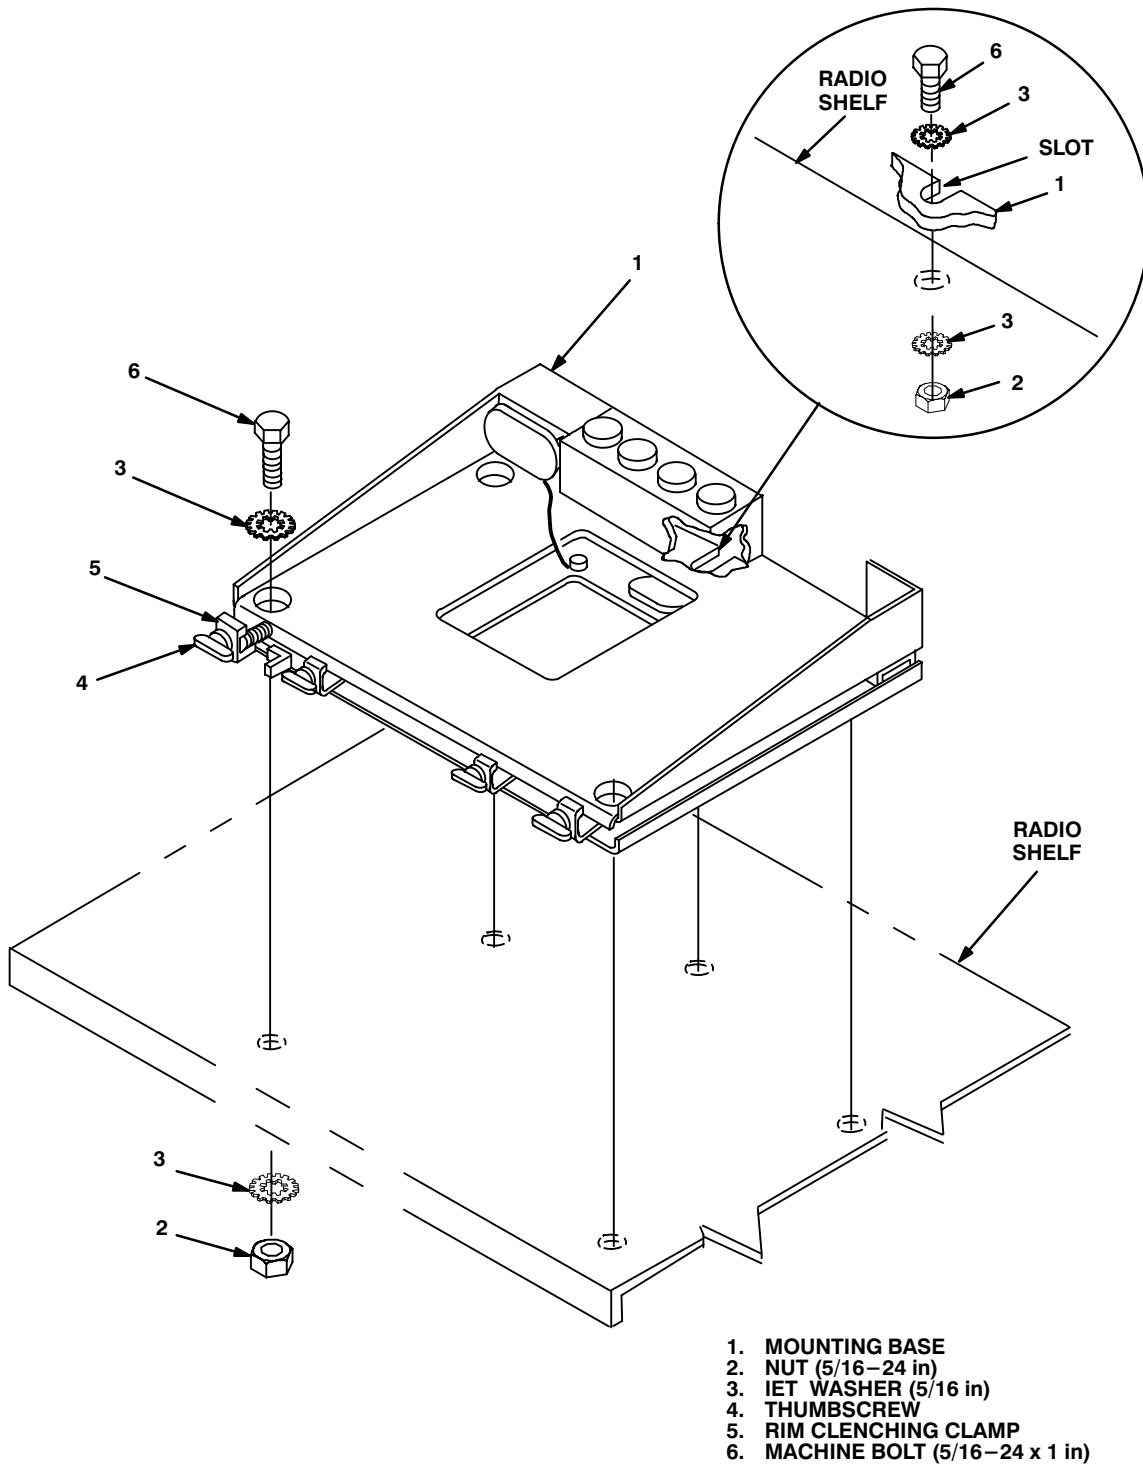

Figure 5-4. Mounting Base Installation
5.2 Installation of Mounting Base, Electrical Equipment MT-6352/VRC (mounting base). Remove and retain attaching bag of 5/16 in mounting hardware for installation. To insure good electrical grounding, any rust, corrosion or paint around mounting holes in radio shelf should be removed before installing the mounting base. See figure 5-1 for location. See figure 5-4 and perform the following steps.